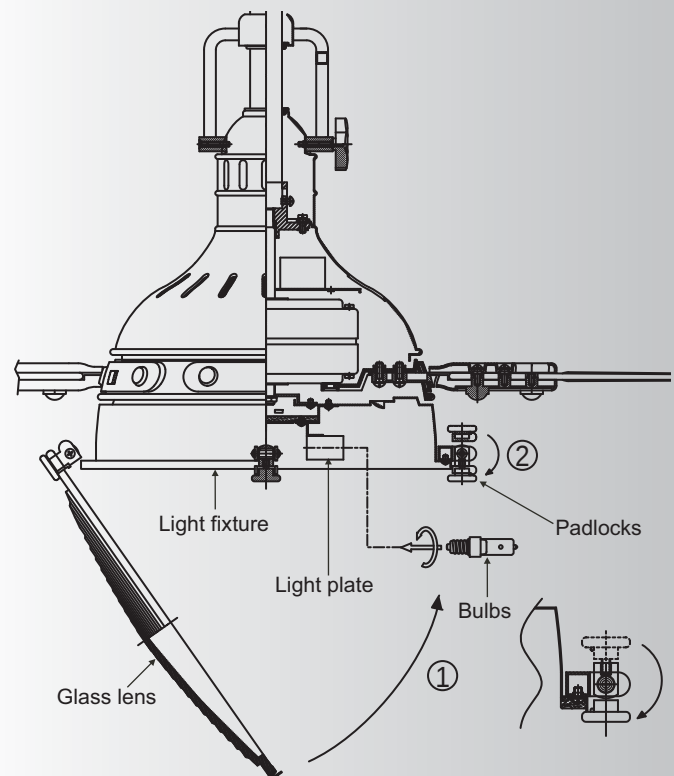

Fig. 19
Step 1. Install 4, 40W T3 halogen bulbs (provided). (Fig. 19)
Step 2. Place the light fixture lens back into the lens holder and close the light fixture. Make sure to lower the padlock and tighten to prevent the lens holder from coming open. (Fig. 19)